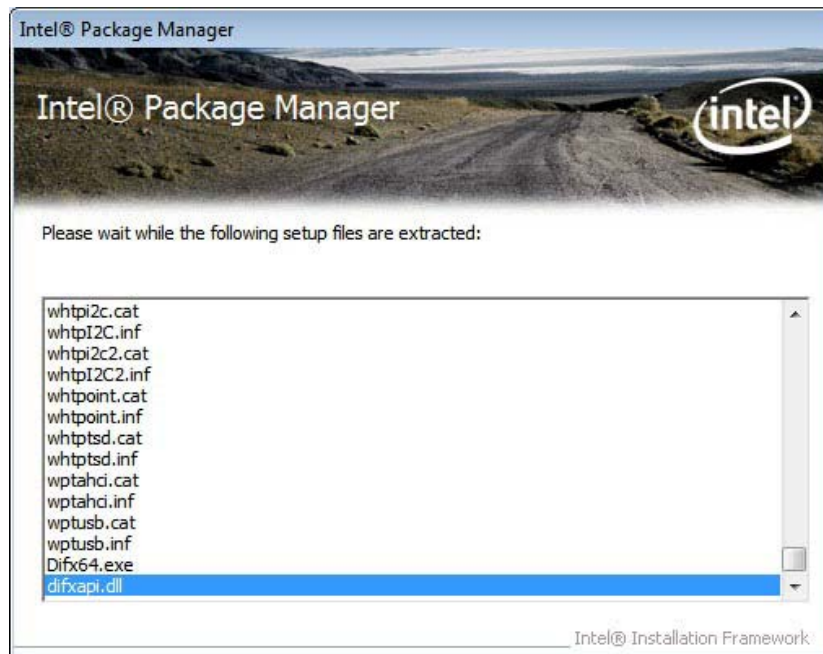

Figure 6-1: Chipset Driver Screen
Step 6: The setup files are extracted as shown in **Figure 6-1**.